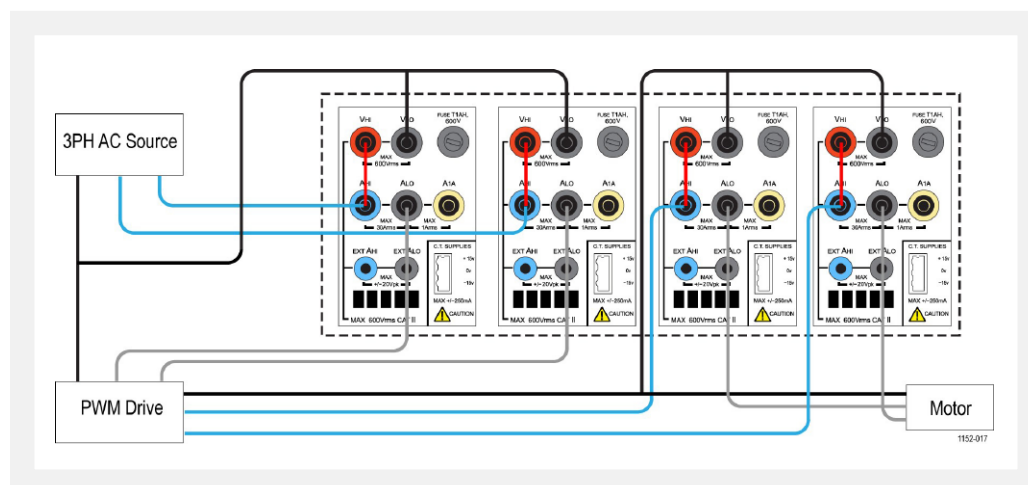

Figure 2-4. PWM Motor drive efficiency (3-phase in and 3-phase out).
1. Connect the three phase AC input of the PWM motor drive to the first two channels of the PA3000 as shown in wiring diagram. (See Figure 2-4.)